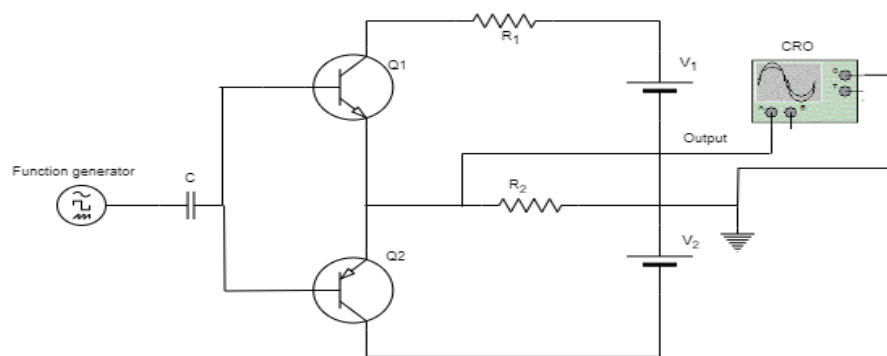

Figure 13.2 Class B power amplifier
13.2 Simulate class B power amplifier as shown in figure 13.2 using MULTISIM